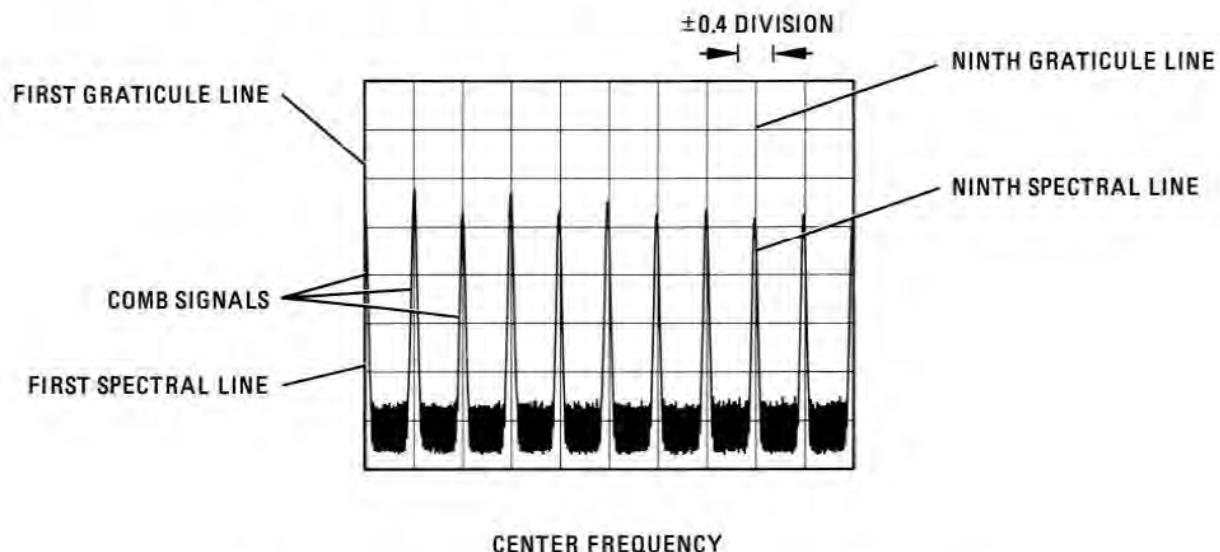

FIGURE 4-2. FREQUENCY SPAN ACCURACY MEASUREMENT FOR NINTH SPECTRAL LINE
- Adjust spectrum analyzer TUNING control to position one spectral line (from comb generator) at first graticule line (left-hand edge of display). Measure error between ninth spectral line and ninth graticule line as shown in Figure 4-2. Error should be no greater than ± 0.4 division.